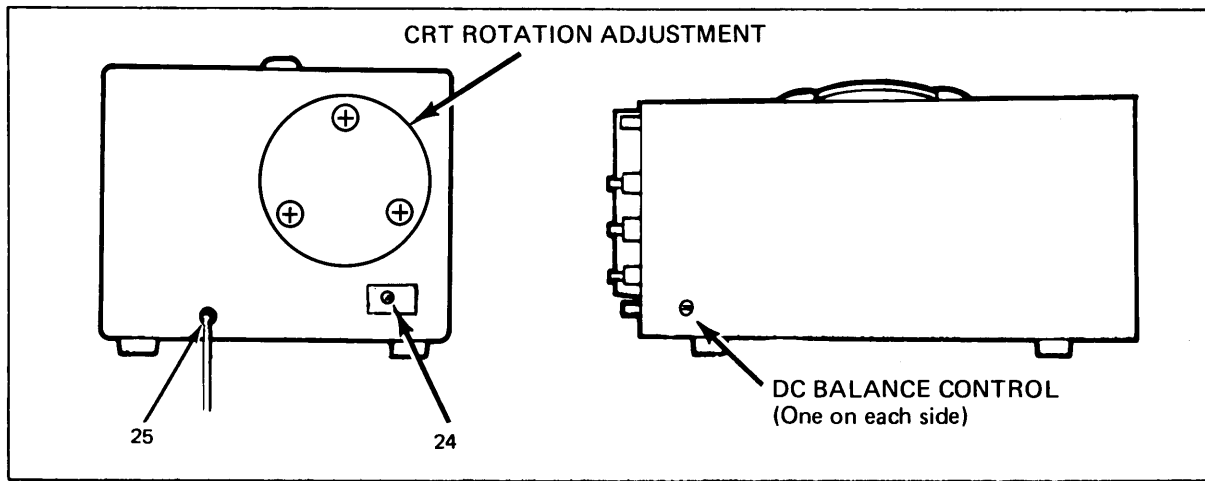

Fig. 2. Rear and side panel facilities.
25. **AC Line Cord** (See Fig. 2). CSA-approved for oscilloscopes.